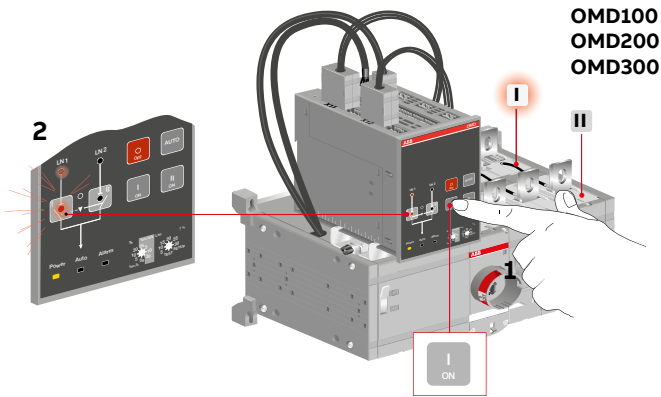

**Figure 4.2** Selecting the automatic control unit OMD\_ to Manual Mode
- a. Make sure that power LED is ON, see the Figure 4.2/①.
- b. If Auto LED is OFF /②, the automatic control unit is in Manual Mode.
- c. If the Auto LED is ON, push the Auto key once /③. The Auto LED switches to OFF and the automatic control unit OMD\_ is in Manual Mode /④.